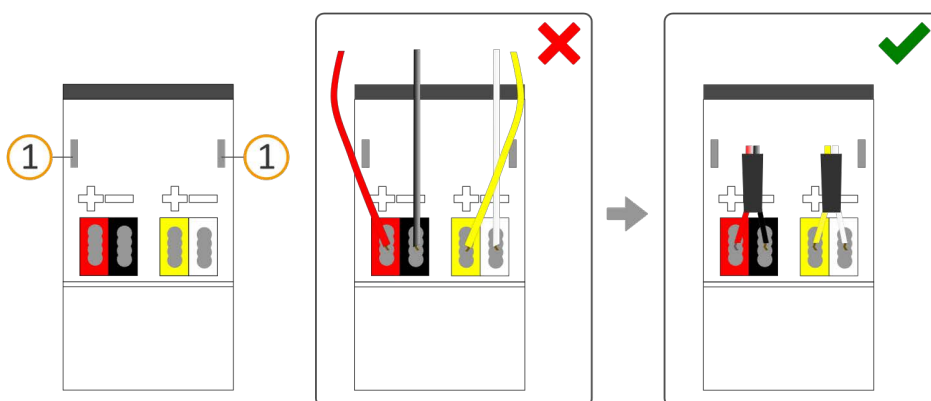

Figure 13: Cable routing
- a. Route all cables to the back. The openings for fastening the cover cap (see figure 13, item 1) must be clear. All cables must be between the openings.